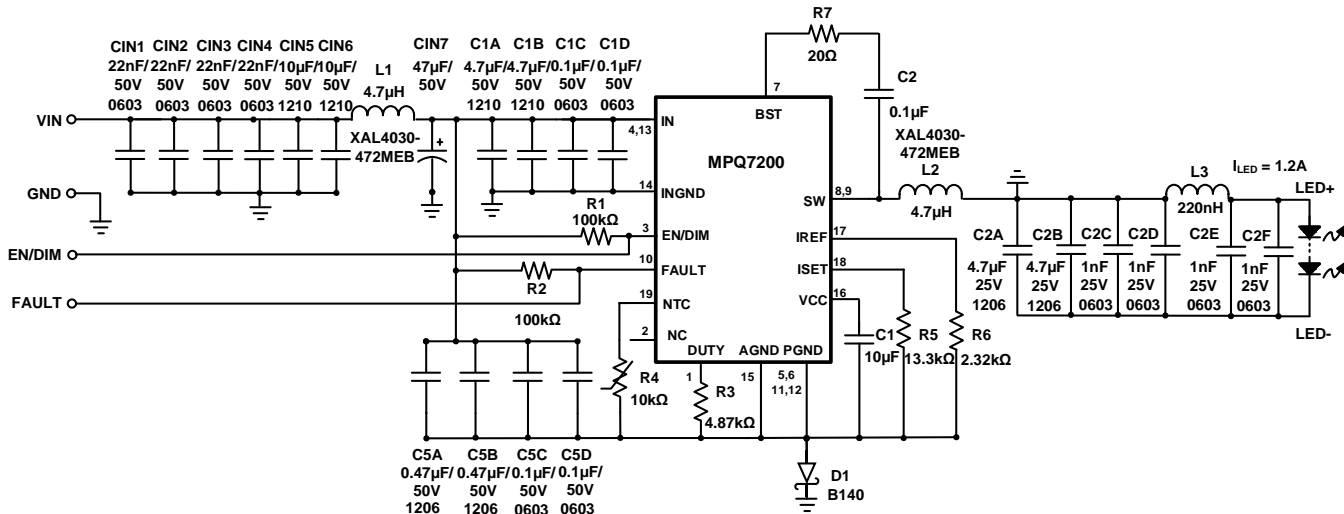

Figure 10: $I_{LED} = 1.2A$, Buck-Boost Application Circuit with No Two-Step Dimming
- 13) The recommended layout is based on Figure 10.